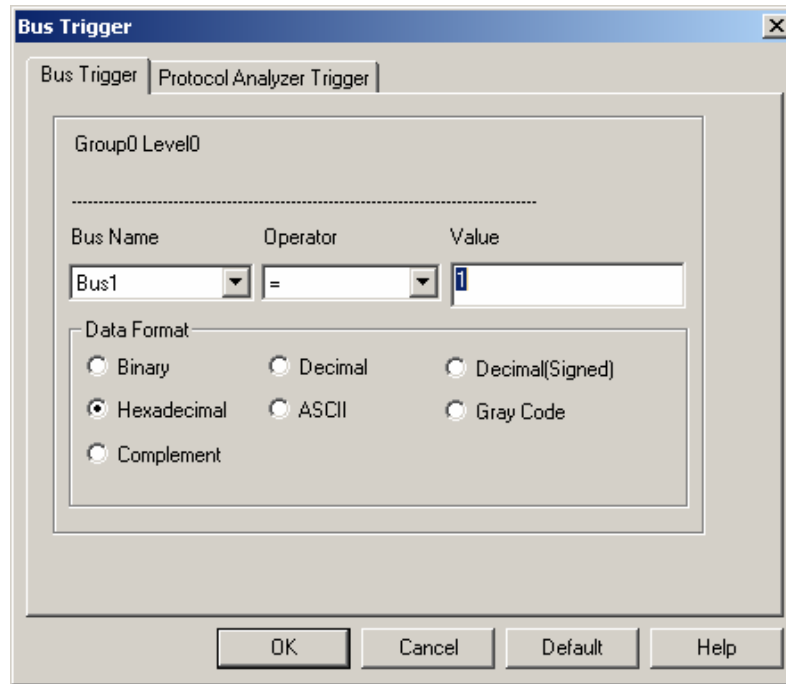

Fig 4-33 – Bus Trigger Setup
1. Highlight the Bus which will be triggered, then click  icon or select **Bus Trigger Setup** from the Trigger of the Menu Bar, the dialog box shown in Fig. 4-33 will appear.
2. Set Binary, Decimal, Decimal(Signed), Hexadecimal, ASCII, Gray Code or Complement as the Data Format of the Bus to represent the value (see Fig 4-33).